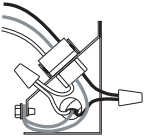

Figure 11
2. Using proper wire connectors, wire the fan as shown in Figure 11.